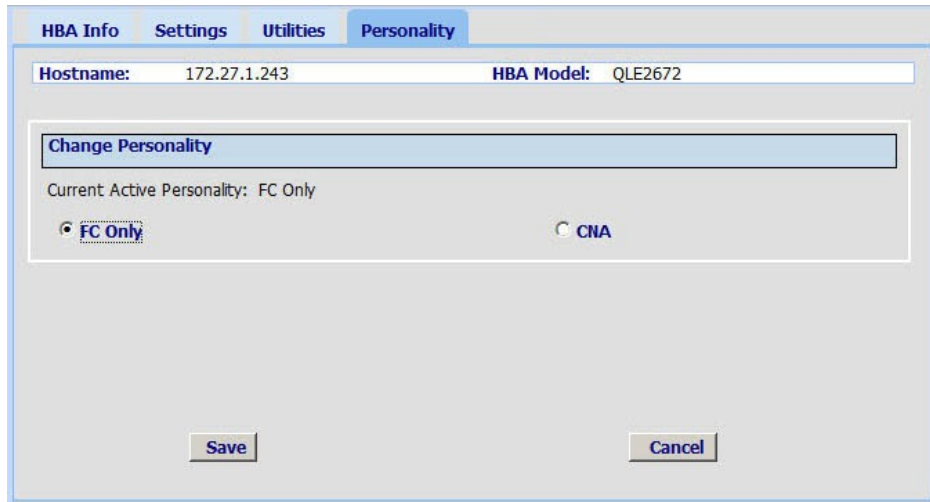
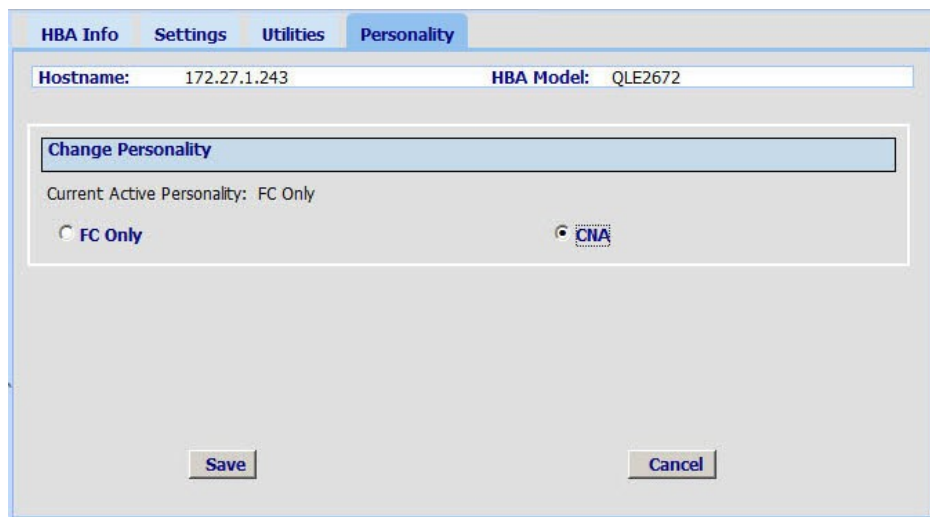

Figure 3-16. Personality Page—Current Personality Set to FC Only
Figure 3-17. Personality Page—Changing to from FC to CNA
3. On the Personality page, click either **FC Only** (Figure 3-16) or **CNA** (Figure 3-17), as appropriate, to change the current adapter type.